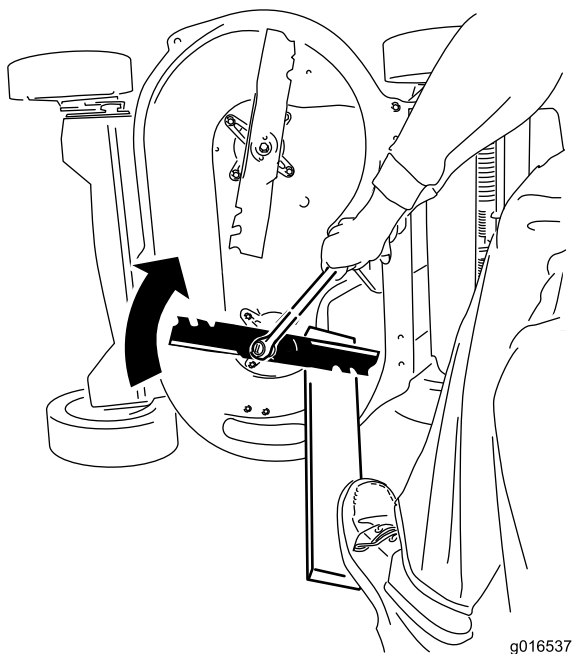

Figure 45
2. Steady each blade with a board and turn the blade bolt clockwise with a torque wrench as shown in Figure 45; torque the blade bolt to 82 N-m (60 ft-lb).